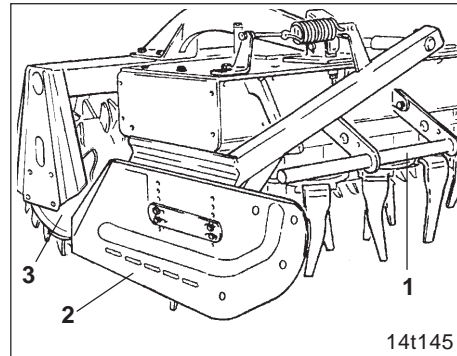

Fig. 4.1
1. The implement may only be used with the tool guard tubes (Fig. 4.1/1), side plates (Fig. 4.1/2) and a roller (Fig. 4.1/3) fitted!